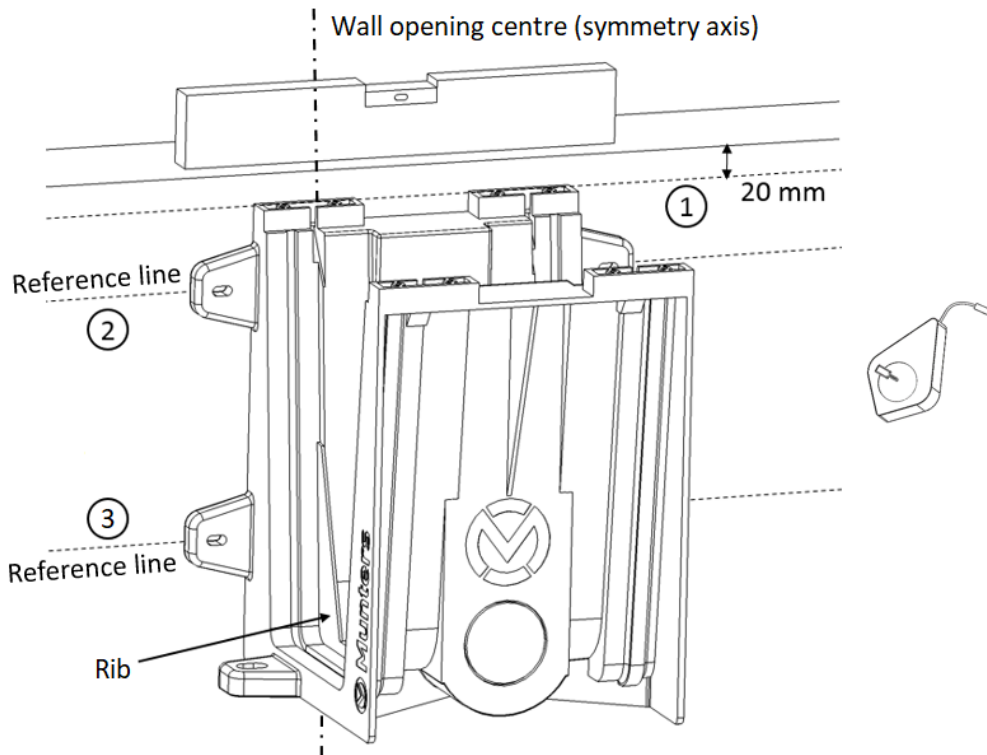

Figure 5
NOTE Be sure to have the horizontal surface of the wall opening completely plane. Use a Spirit Level [ref. 4 / Assembling Tools]. See Figure 5. The MPG must be installed on a flat surface, i.e. 0% slope.
Place the indicated rib of the Supply Unit Connection Bracket at the centre and 20mm under the wall opening edge, as indicated in Figure 5. Verify the correct horizontal level using the spirit level.
Use the holes alignment to trace a horizontal line on the installation wall, which will serve as a level reference line for all the other brackets holes ② and ③. Use the Chalk line [ref. 2 / Assembling Tools]. See Figure 5.